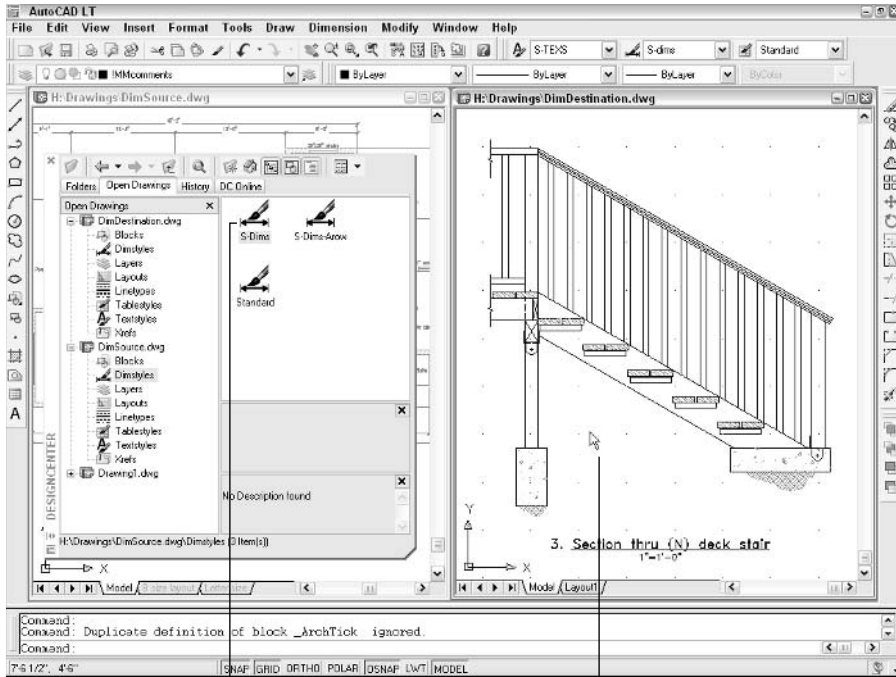

Figure 10-4:
6. Click and drag the desired dimension style from the right pane of the DesignCenter palette into the window containing the drawing that you opened in Step 2, as shown in Figure 10-4.